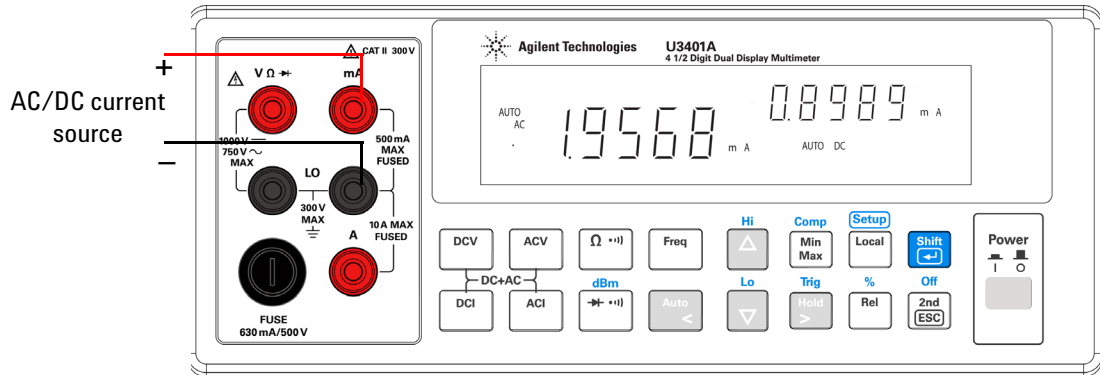

Figure 3-2 Connection terminal when using DC current and AC ripple
- 1 Connect the red and black test leads to the input terminal and probe the test points as shown in **Figure 3-2**.